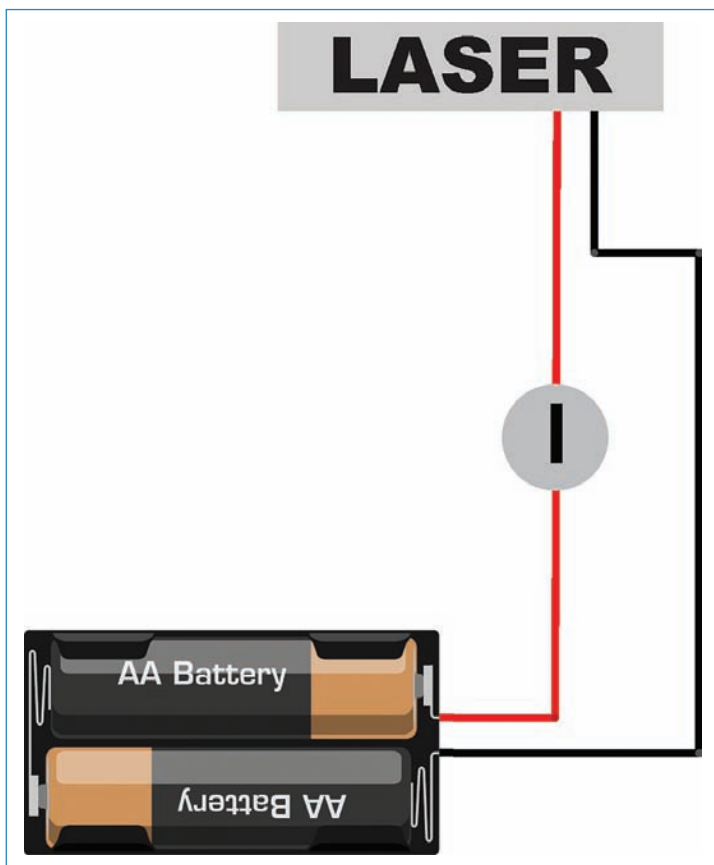

FIGURE 2.10 Wire up the laser module as you see here.
Let's build it! You begin with the laser module (diagrammed in Figure 2.10) because it's relatively simple. When you're finished with that, you'll move onto the sensor module.
1. Connect the battery pack's red wire to one terminal of the keylock switch, as shown in Figure 2.10. It doesn't matter which terminal. See the sidebar on how to heat-shrink a wire to the lock's terminals, later in this chapter.